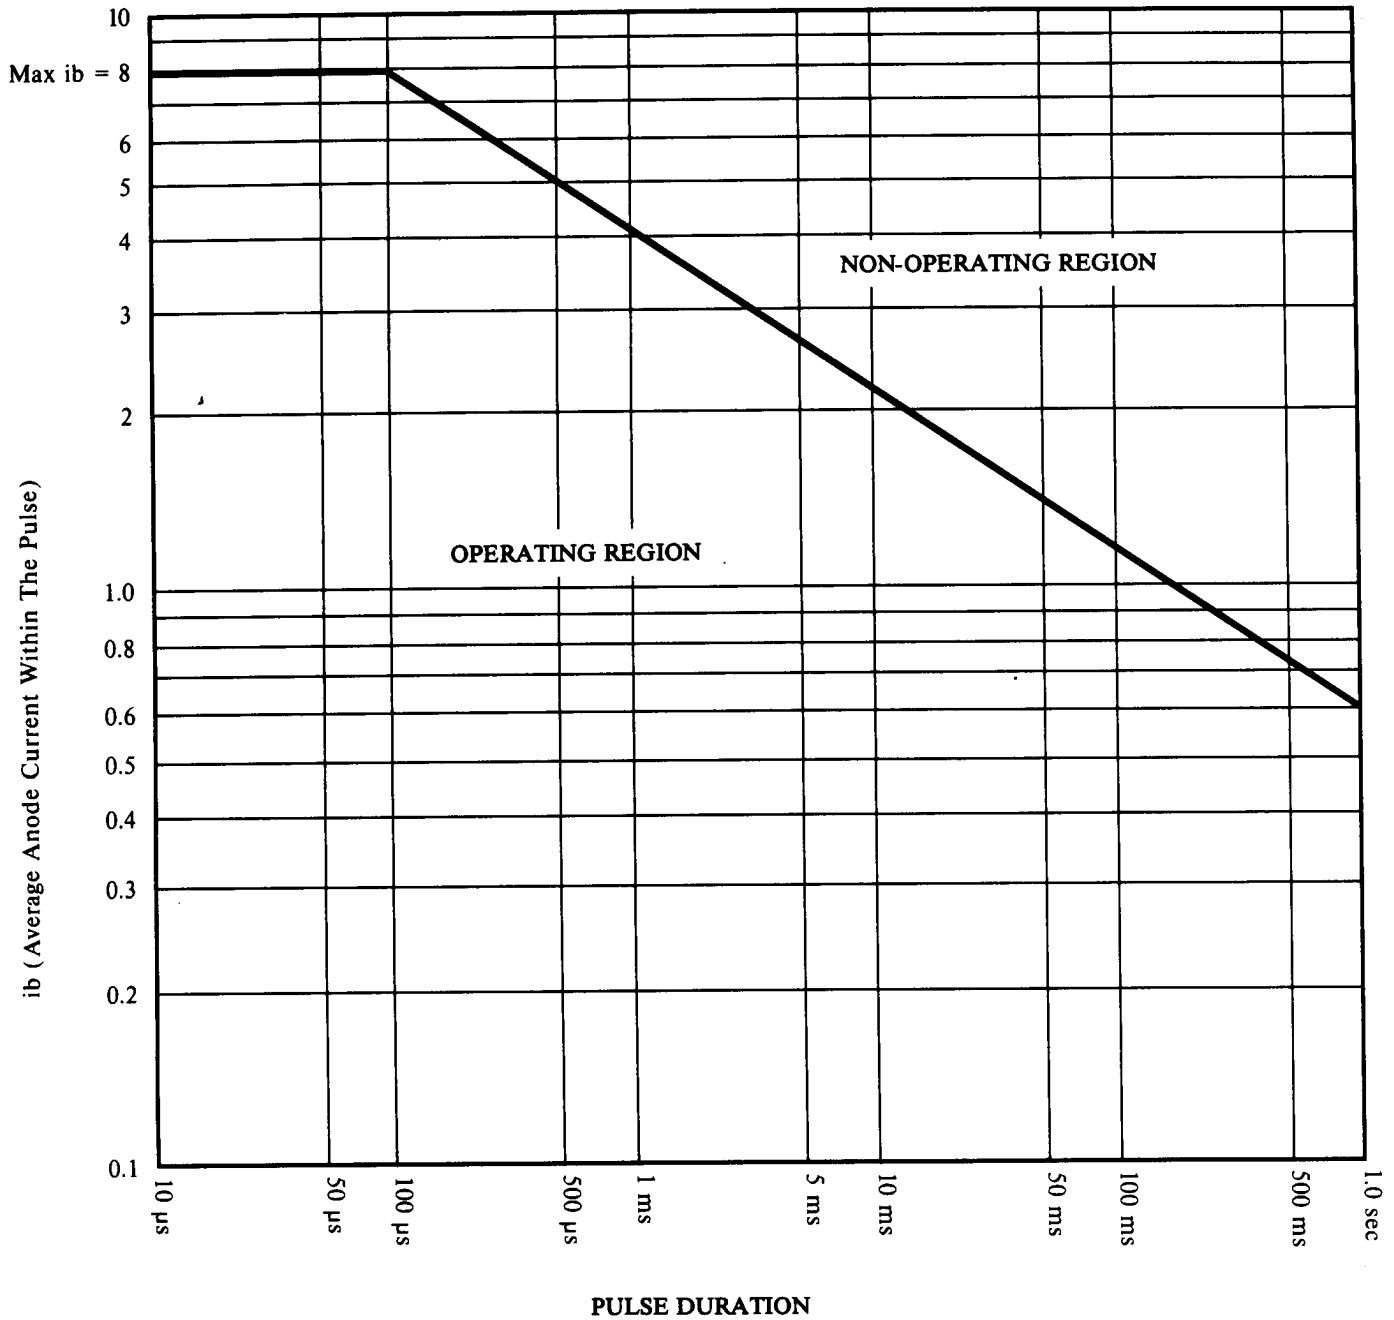

Figure 2 - Pulse Derating Chart, 3CX800A7
**ABSOLUTE MAXIMUM RATINGS: (See Figure 2 PULSE DERATING CHART for pulse durations over 100 microseconds)**